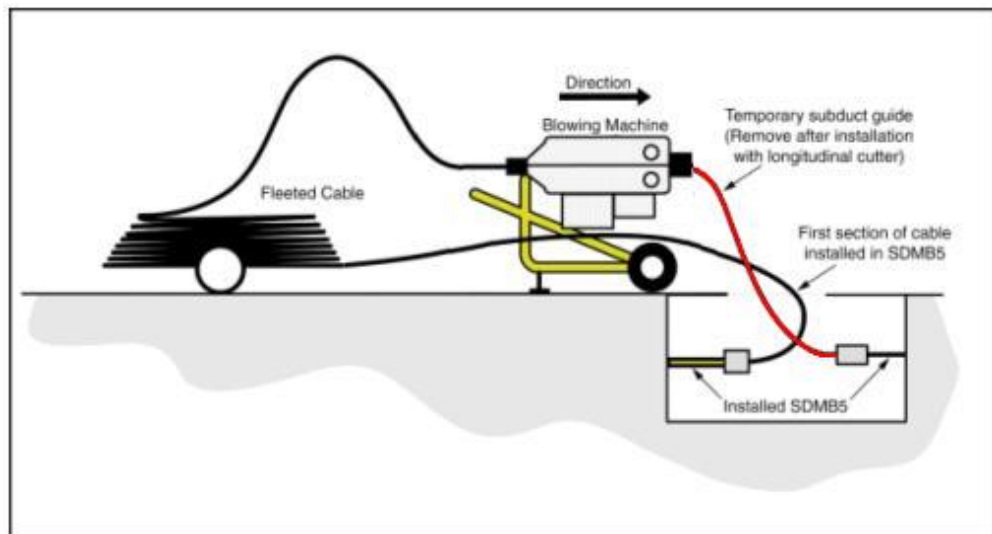
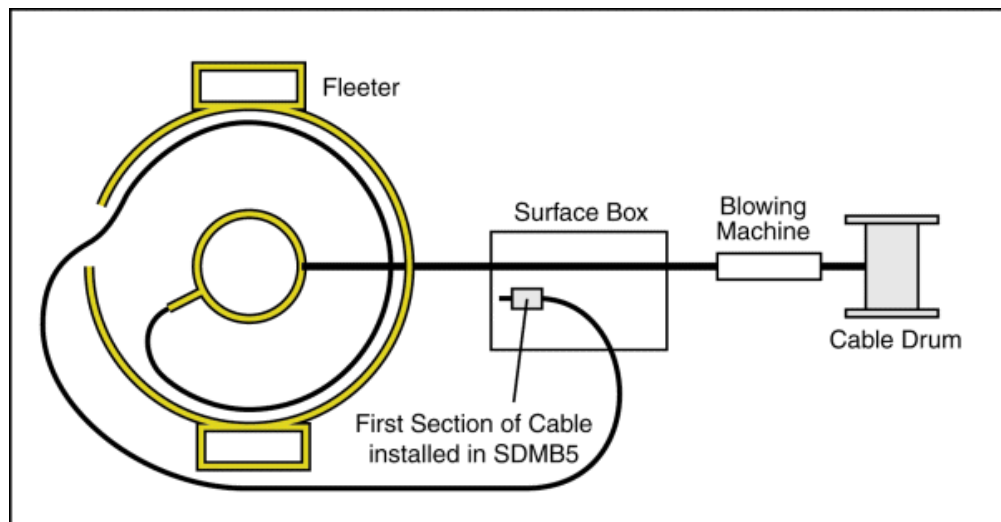

Figure 3 Schematic diagram showing correct position of plant and equipment to load cable into cable fleeter for second section of mid point installation
Figure 4 Schematic diagram showing correct position of cable in fleeting cage
2. Set up and prepare fleeing equipment as Figure 3. Clamp a temporary length of SDMB5 between the fleeter and cable blowing machine. Take a loop of cable and insert into the cut outs in the fleeing cage as shown in Figure 4.